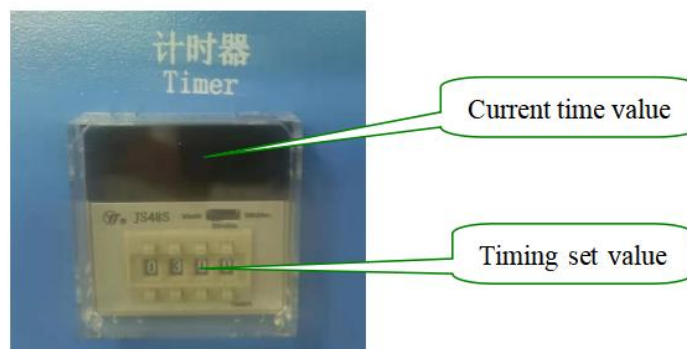

Figure 3
*Timer adjustment: As shown in Figure 3, press the dial code below to adjust the timer setting value.